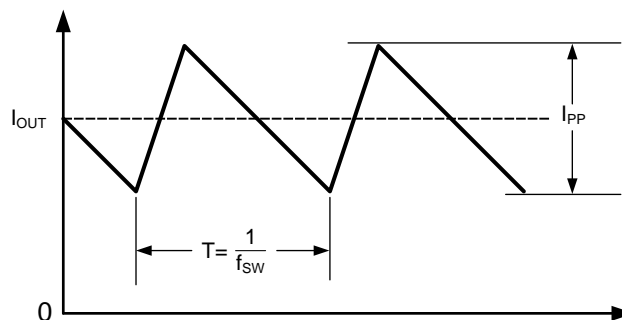

Figure 26. Inductor Current
- I_{PP} represents inductor peak to peak ripple current in Figure 26, and is defined as: (10)